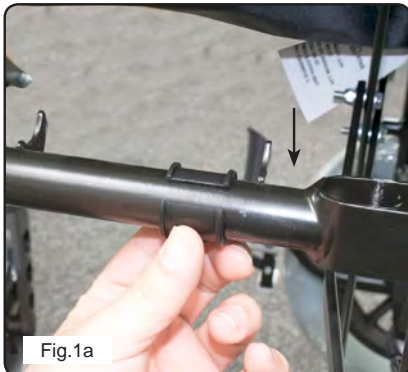

Fig.1a
- Clip the appropriate size Frame Adapter if required (Horizontal fitting Fig.1a or Vertical fitting Fig.1b) around the frame tube, as close to the rear of the seat base as possible.